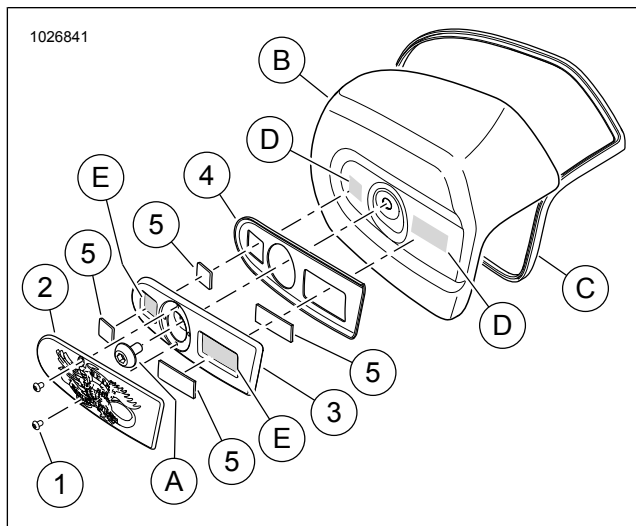
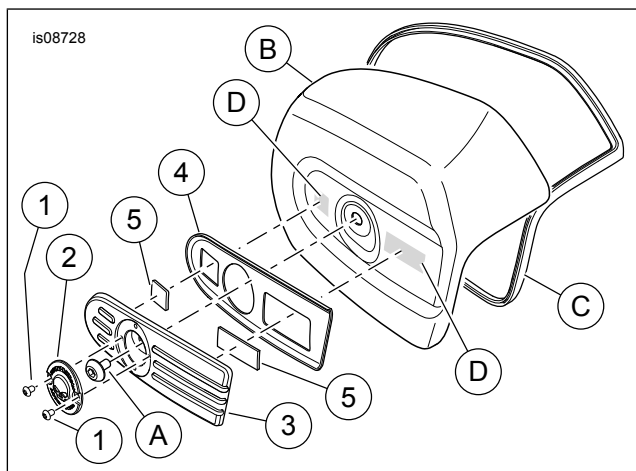

Figure 1. Service Parts, Live to Ride Air Cleaner Trim Kit
Figure 2. Service Parts, All Other Air Cleaner Trim Kits
See Figure 1, Figure 2 and Table 1.
1. See Figure 1. Remove the original equipment (OE) insert from the air cleaner cover (B).
- a. Push a thin-blade putty knife between trim (3) and air cleaner cover while pulling trim away from cover.
1. See Figure 1. Thoroughly clean area (D) with a 50:50 mix of rubbing alcohol and water. Allow to dry completely.
2. Align the gasket (4) to the back side of the trim plate (3).
1. See Figure 2. Thoroughly clean area (D) with a 50:50 mix of rubbing alcohol and water. Allow to dry completely.